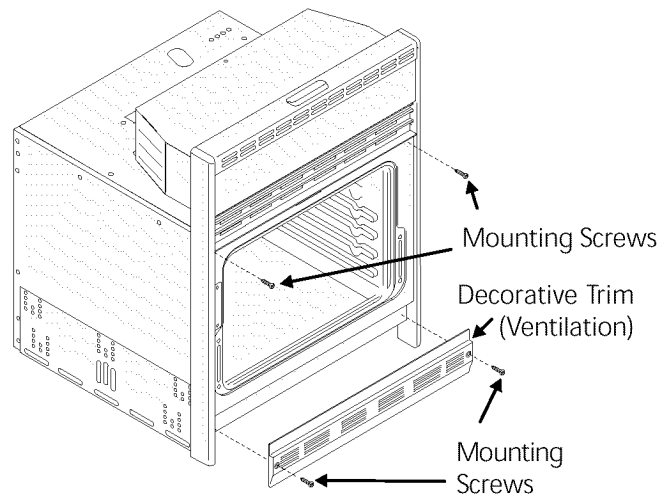

Figure 6
1. Line up the 2 mounting holes on the decorative trim (ventilation) taped to the oven side panel, with the lower mounting holes on each side of the oven frame, below the oven door (see figure 6).